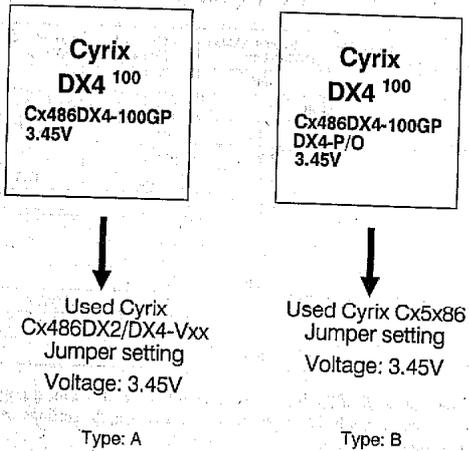

Figure:1
1. Identify your Cyril DX4-100 according to figure: 1. They can be easily differentiated from the "DX4-P/O" notified on top of Type: B Cyril DX4-100.